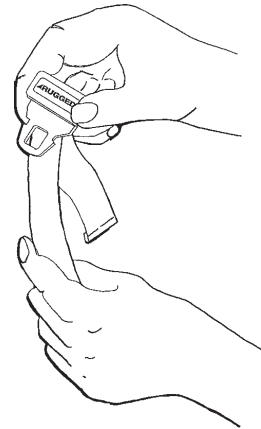

Figure 18 - Lengthening the Safety Restraint
1. Grasp the buckle latch plate, turn it at an angle to the webbing, then pull it out (Fig. 18).